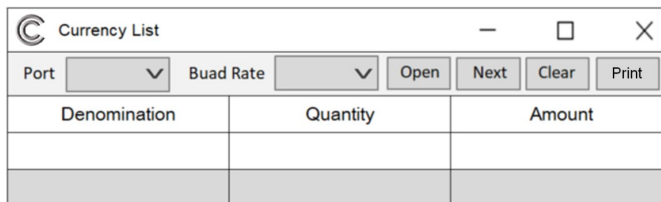

Figure 80
1) Extract the host computer software provided by our company, get a folder named "Release", and open the host computer software application program "  UpperMonitor.exe " in this folder, as shown in Figure 80 below.